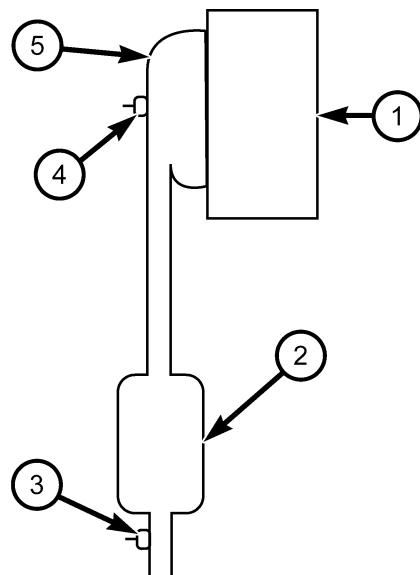
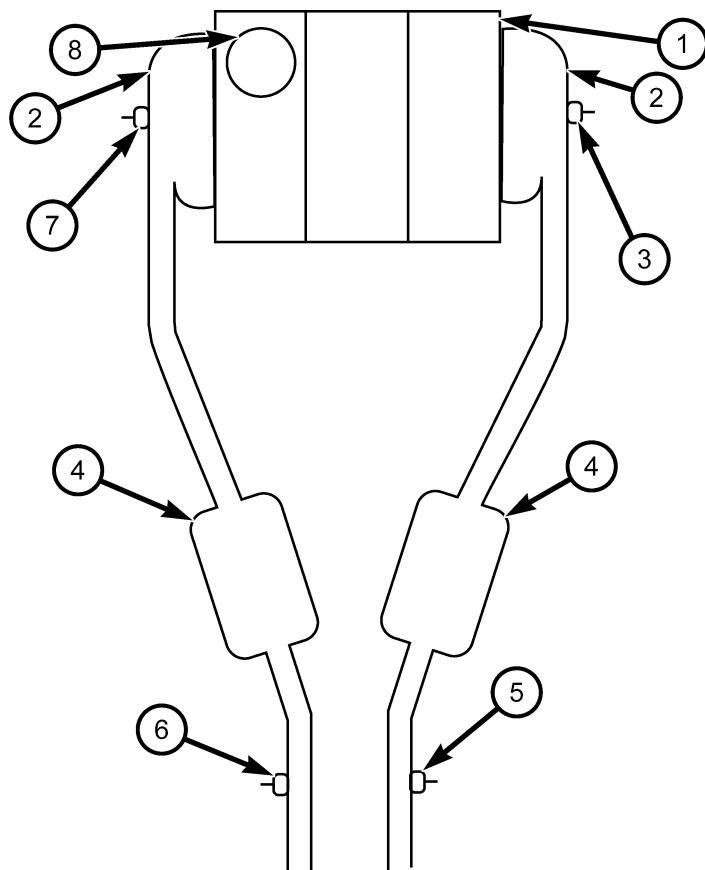

Figure 14 Naming Conventions of O₂ Sensors (1/1 and 1/2)
Figure 15 Naming Conventions of O2 Sensors (1/1, 1/2, 2/1, and 2/2)
Oxygen sensors are typically represented as 1/1, 1/2, 1/3, etc (fig. 14 and fig 15). The first digit indicates the bank of the engine the O₂ sensor is on. The digit “1” indicates the O₂ sensor is on the same bank as the number 1 cylinder. The digit “2” represents a location on the bank opposite the number 1 cylinder. The second digit represents upstream (1), downstream (2) or mid-catalyst (3) locations.